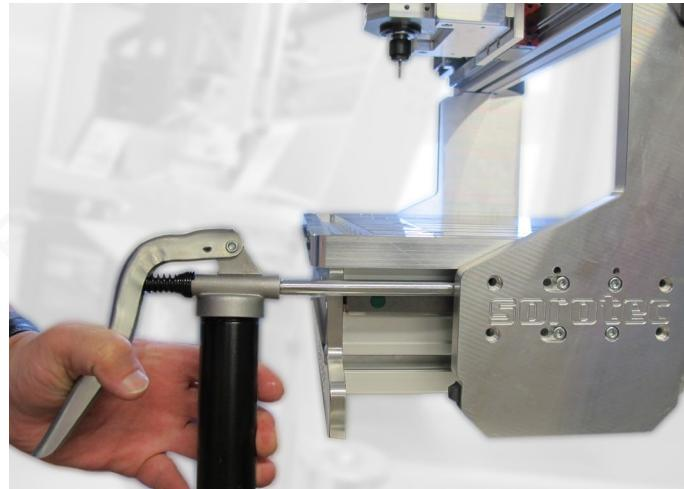

Fig. 44: Lubricating the front carriage X-axis
- Lubricate left and right as shown in Figure 44.